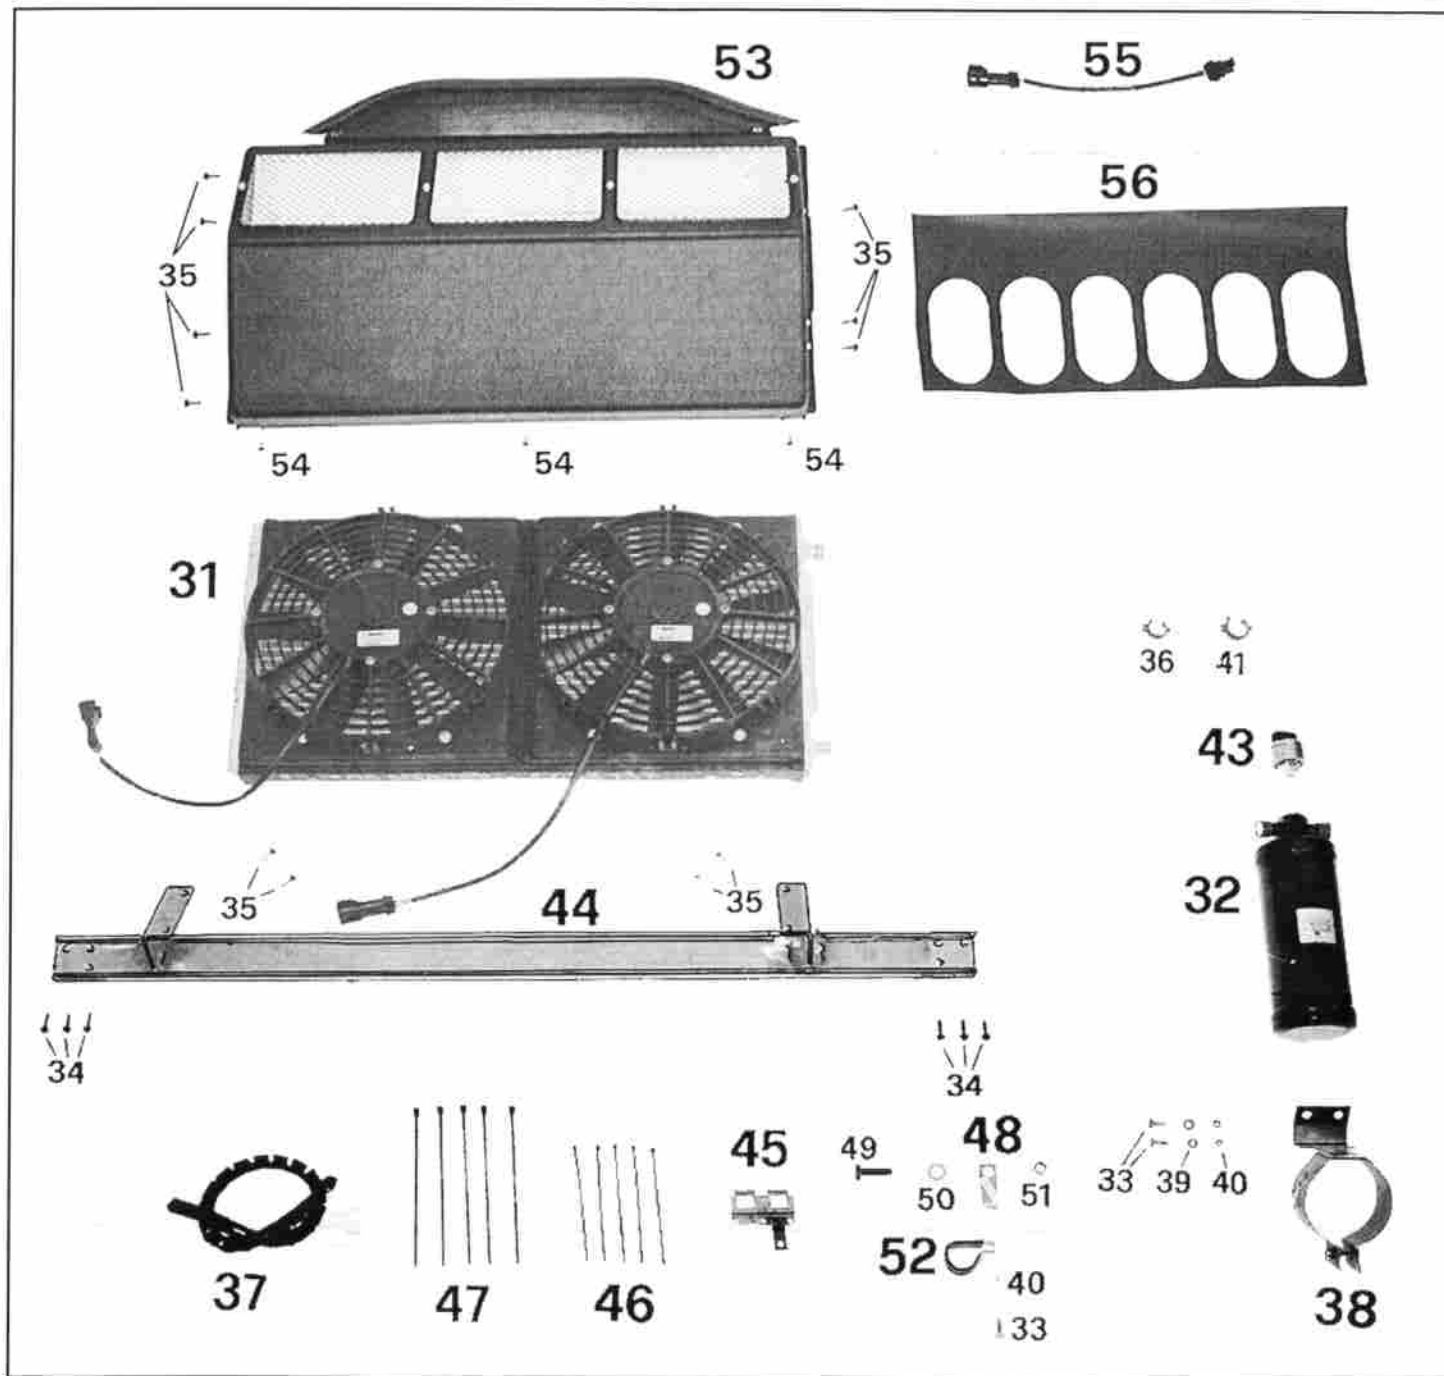

FIG. 2
**ELENCO MATERIALE FORNITO (FIG. 2)
LISTE DU MATERIEL FOURNI (FIG. 2) / LIST OF SUPPLIED MATERIALS (FIG. 2)
VERZEICHNIS DES GELIEFERTEN MATERIALS (ABB. 2) / LISTA MATERIAL ABASTECIDO (FIG. 2)**